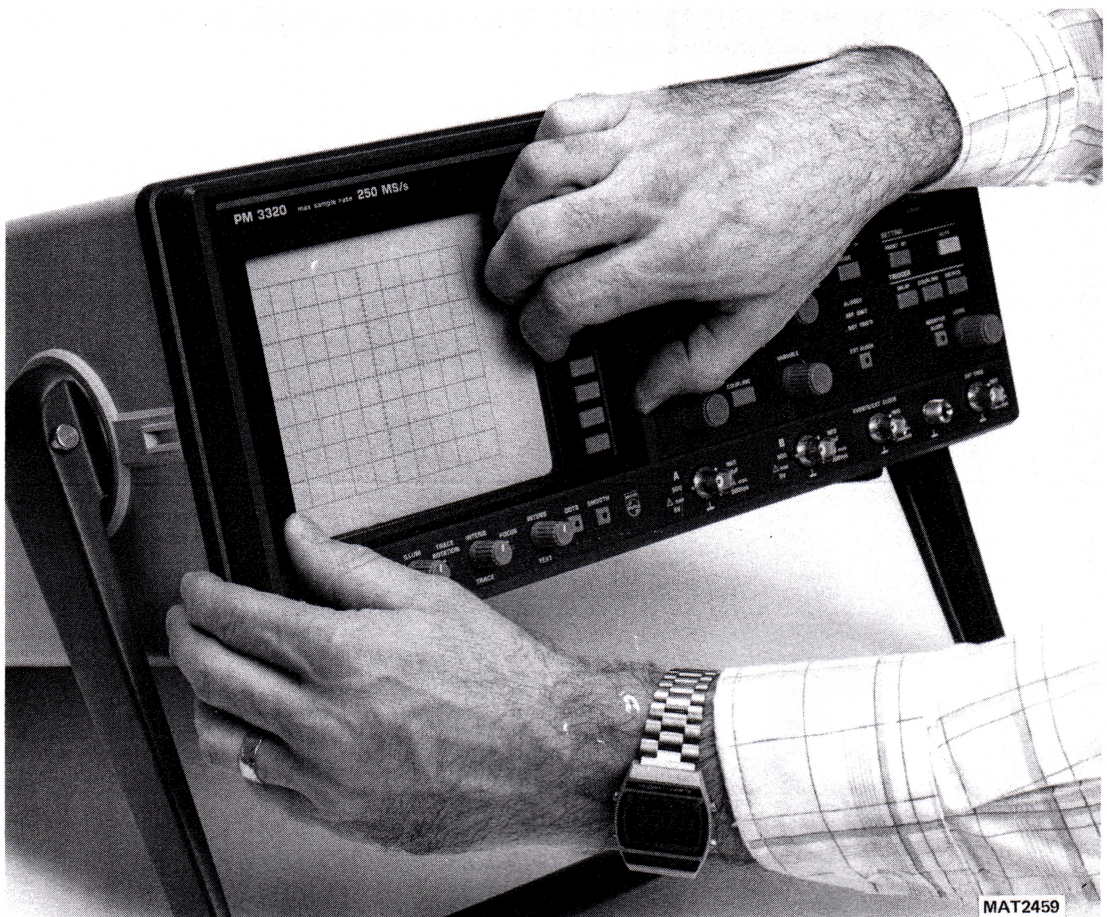

Figure 5.1 Removing the bezel and contrast filter.
- Push the bezel gently to the right and pull it from the instrument as shown in figure 5.1.